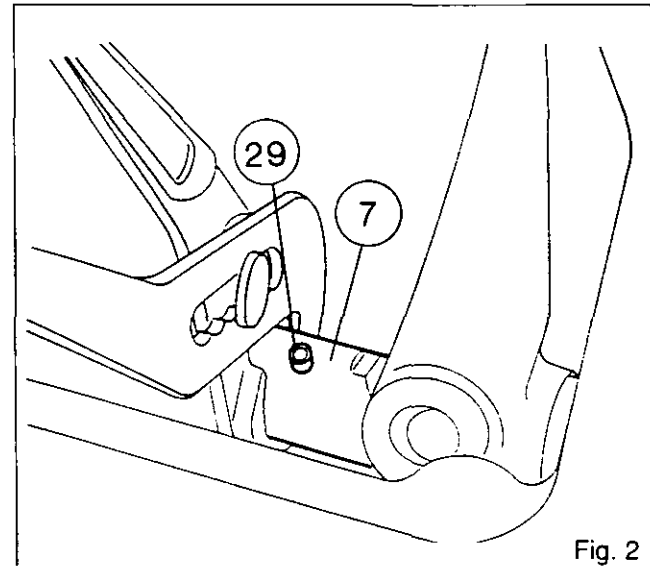
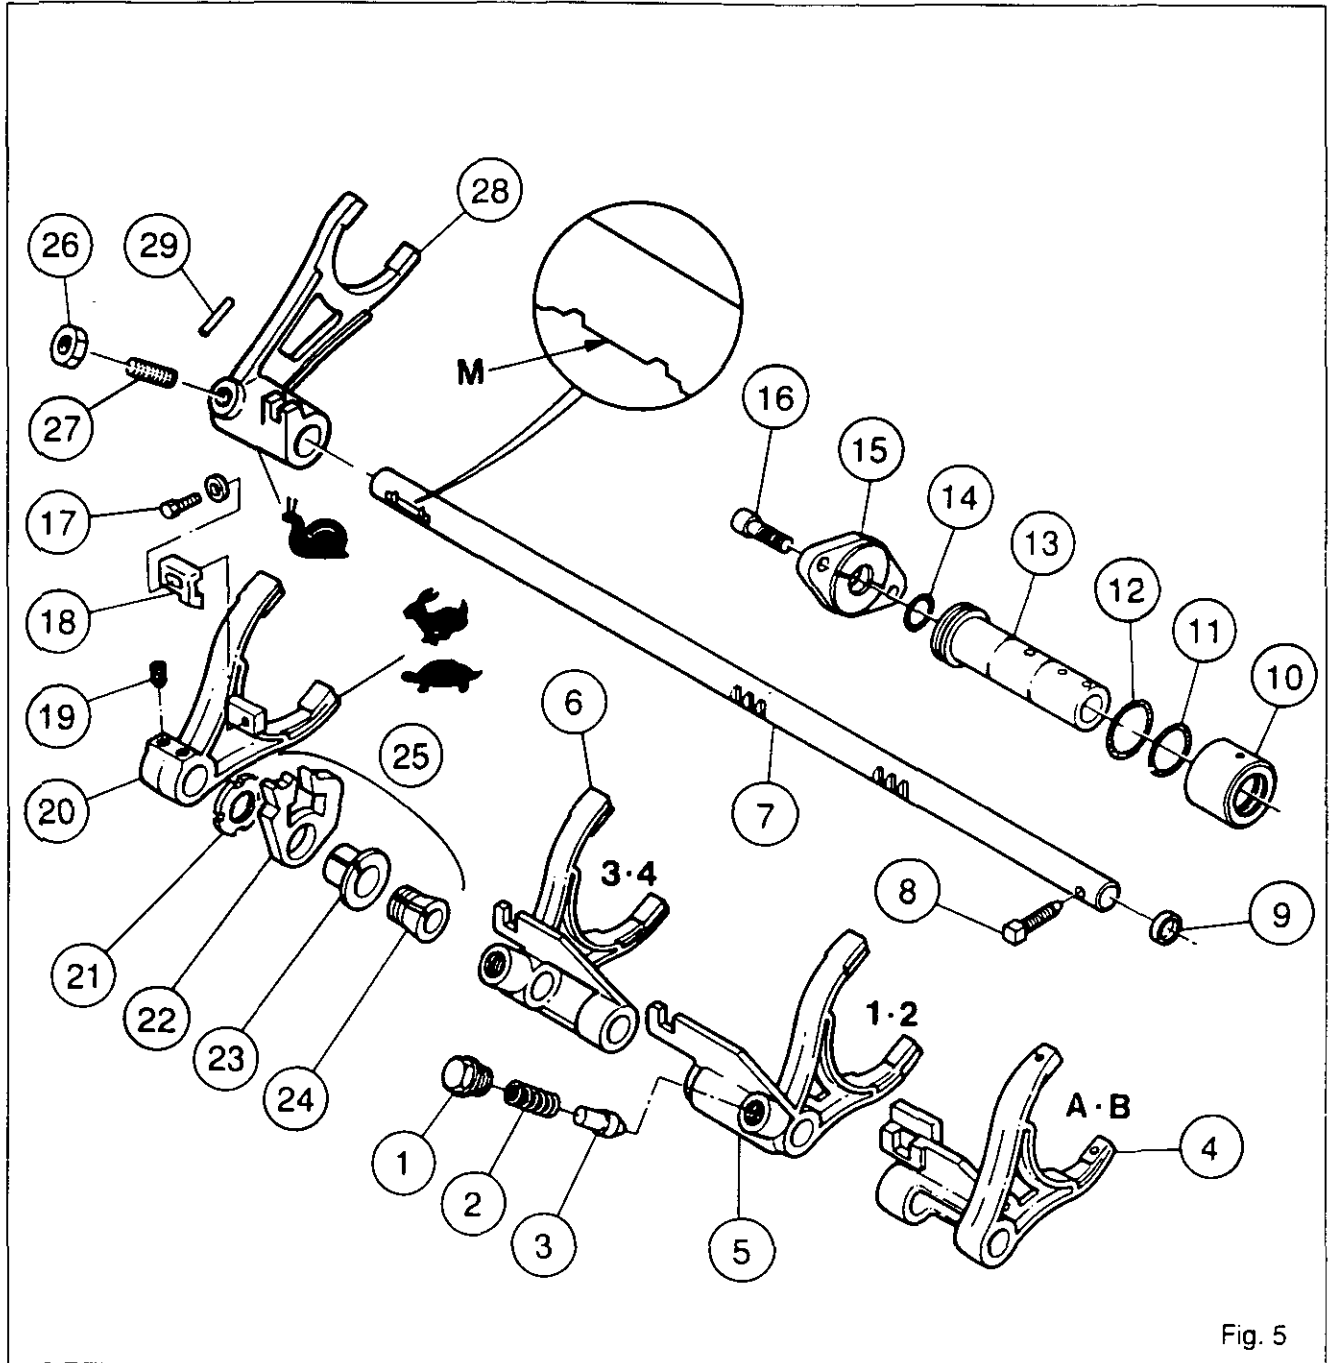

Fig. 2
Fig. 5
5. Unscrew nut (26) and the locking screw (27) on the fork (28) (Fig. 2).
6. Remove the setscrew (8) (Fig. 5)
7. Turn the selector rail (7) and drive out the roll pin (29) (Figs. 2 and 3).
### Key to Figure 5
13. Fit the setscrew (8) temporarily to hold the selector rail in order to remove the fork (28) (Fig. 5)
26. Remove the setscrew (8) (Fig. 5).
27. Press in a new pin (29) and turn the selector rail (7) (Figs. 2 and 3)
28. Clean the setscrew (8), coat it with Loctite 542 and tighten to a torque of 28 - 43 Nm.
29. Locate the fork (28) and the locking screw (27) on flat M of the selector rail (7) (between the two detent notches) (Fig. 5).
Tighten the screw to compress the ball. Slacken the screw a quarter turn. Clean the nut (26) and coat it with Loctite 241, then tighten to a torque of 15 - 20 Nm (Fig. 5).